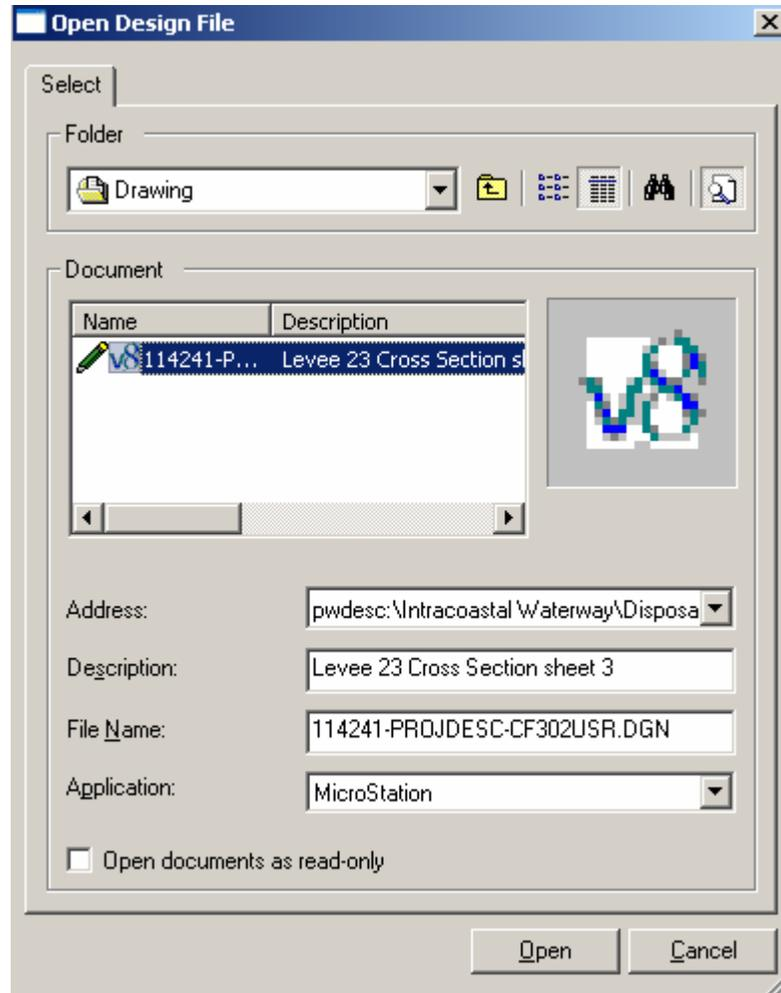

Figure 4-33
4.6.2 Once the Netspex designer is initialized, the Microstation splash screen appears and then afterwards the ProjectWise dialogue appears as shown in figure 4-33 below. Set the ProjectWise dialogue to the data source and set the other boxes according to the
user's name and password. Select in ProjectWise the project folder as shown in figure 4-33 below and click the drawing file. Proceed by clicking the 'Open' button and the file then opens in Microstation.
The Netspex branding wizard then appears. Select the discipline as civil, drawing type and scale 1=20', see figure 4-33. Within this model file there is only one type of model so keep the save branding to file checked.